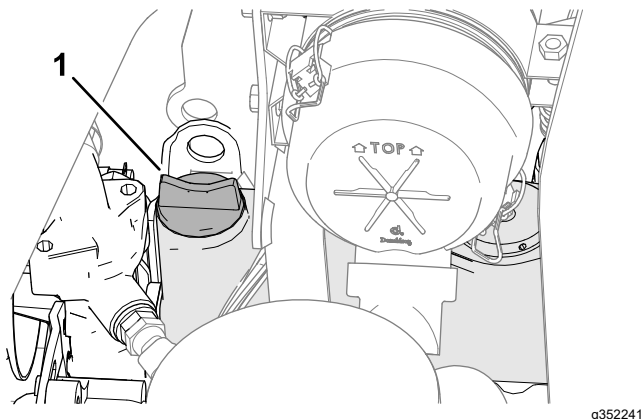

Figure 73
5. If the oil level is low, remove the oil-fill cap (Figure 73) and gradually add small quantities of oil, checking the level frequently, until the level reaches the Full mark on the dipstick.